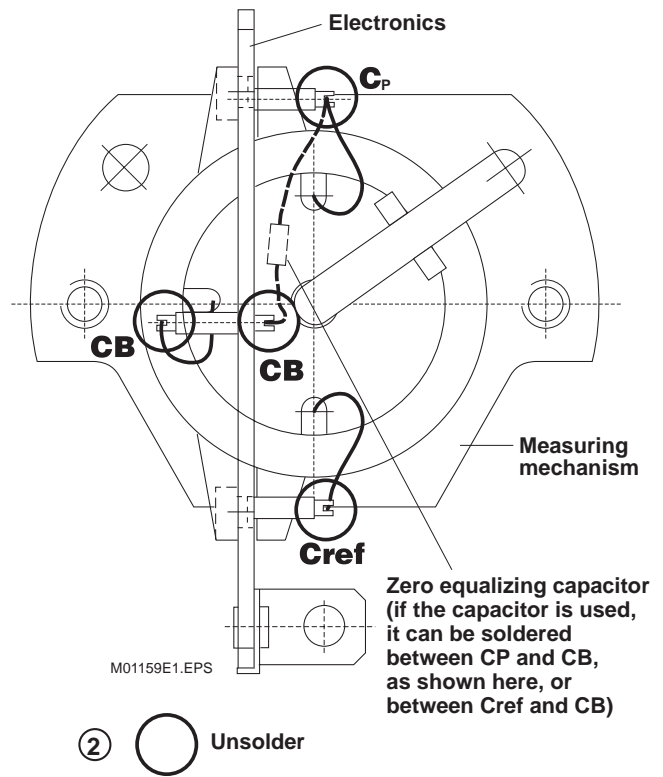

Fig. 25.
(see Fig. 25 and 26)
2. Unsolder the **wiring** between the measuring mechanism and the electronic unit - solder terminals **Cref**, **Cp** and **CB** (under certain circumstances,twice). Observe soldering instructions! (Fig. 25).